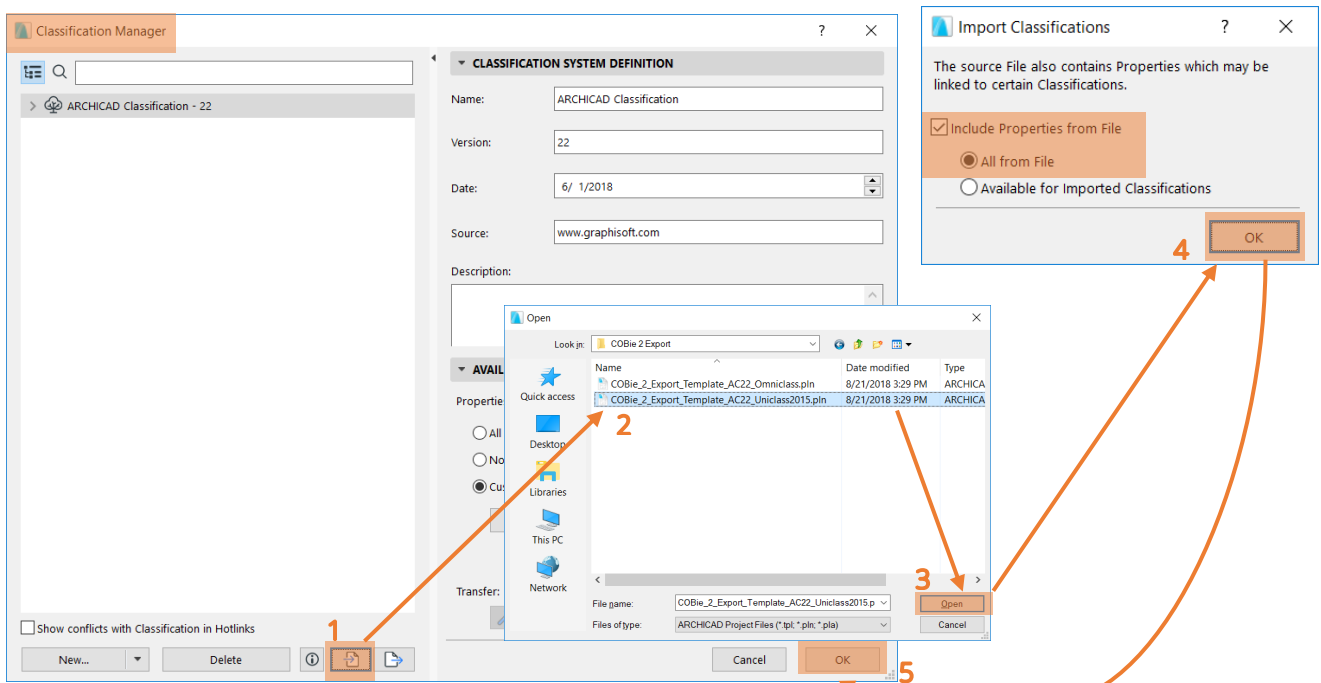

Figure 3 - STEP 1-2: Importing Classification Systems and Properties
2. If you import the Classification System and you check the “*Include Properties from Files*” checkbox, the properties will automatically be imported. (*Figure 3*)
Open *Options > Classification Manager / Property Manager* to start the process and follow the steps on Figure 3.